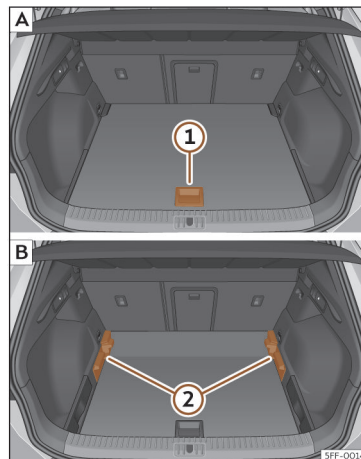

Fig. 117 Variable luggage compartment floor: **A** raised position; **B** lowered position.
- To move from the low position to the high position, lift the floor using the handle >>> **Fig. 117 ①**, and pull it back until the front of the floor has fully passed the supports >>> **Fig. 117 ②**.
- Move the floor forward over the supports as far as the rear seat backrest and then lower the floor with the handle **①**.
- To move from the high position to the low position, lift the floor using the handle >>> **Fig. 117 ①**, and pull it back until the front of the floor has fully passed the supports >>> **Fig. 117 ②**.
- Now let the front part fall to the floor and slide the floor forwards as far as the rear seat backrest; lower the floor at the same time with the handle **①**.
- Lift the variable floor in the high position using handle >>> **Fig. 117 ①**, pull it up and push it towards the backrest of the rear seats until it folds along the hinge line and the movable part of the floor is resting on itself.